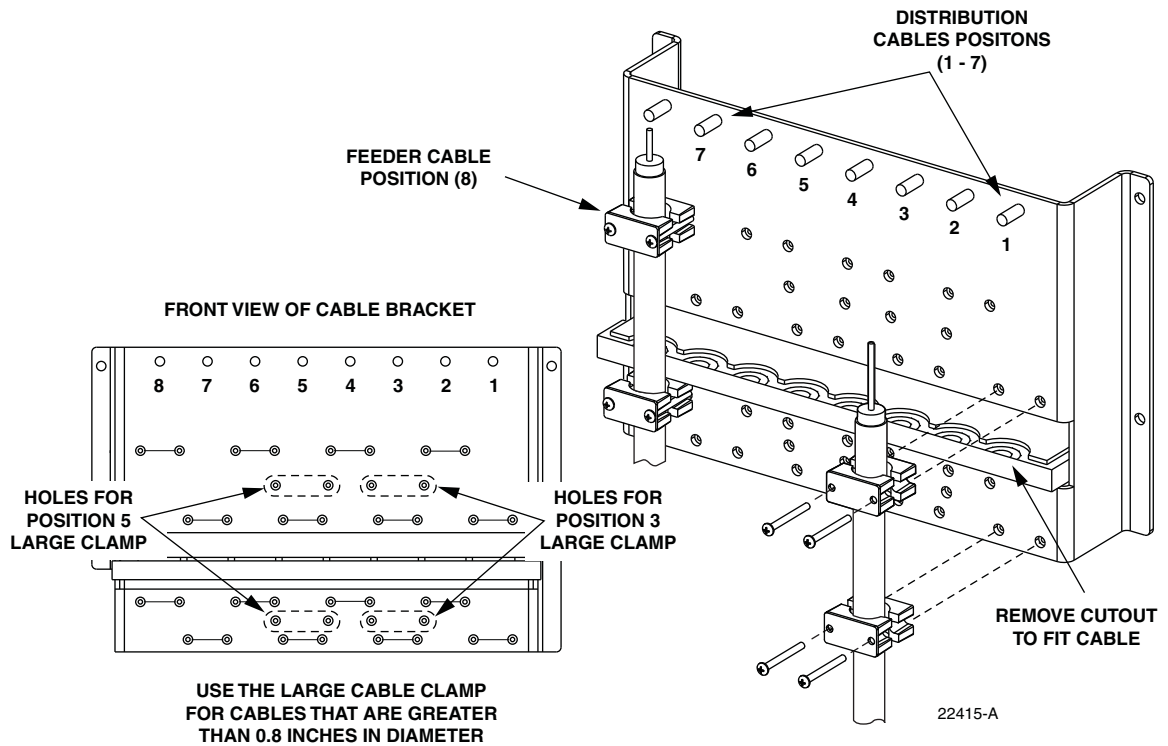

Figure 28. Secure Distribution Cable to Cable Bracket
5. Locate the cable clamping positions specified for securing the distribution cables to the cable bracket as shown in Figure 28.